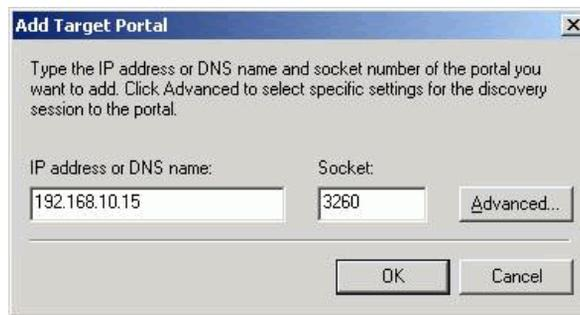

Figure 5-17 Add Target Portal Dialog Box
1. Start the Microsoft iSCSI initiator and enter the iSCSI port IP address on the SAN Router as the target portal address (Figure 5-17 on page 5-30).